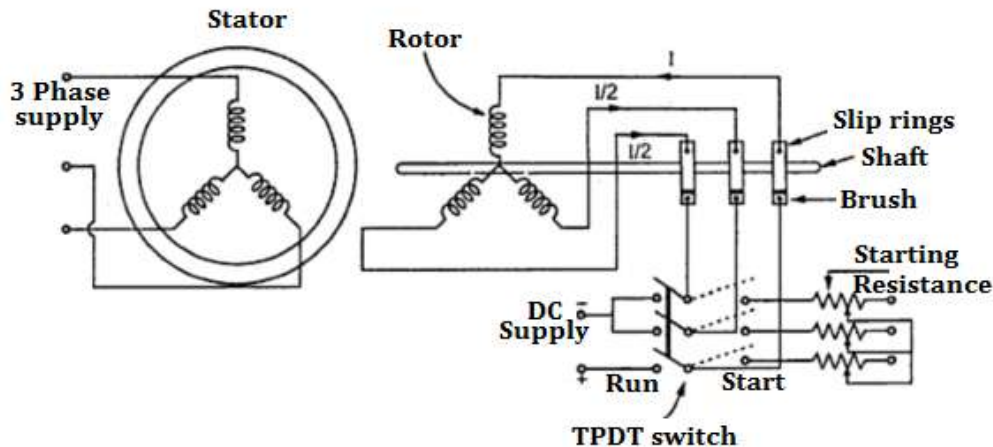

Figure.8.7. Connection diagram of a Rotor resistance starter.
6.6.5. Rotor resistance Starter. To limit the rotor current which consequently reduces the current drawn by the motor from the supply, the resistance can be inserted in the rotor circuit at the time of starting. This addition of the resistance in rotor is in the form of 3 phase star connected rheostat which is normally wire-wound. They are tapped with points brought out to fixed contactors. The arrangement is shown in the figure 8.7.